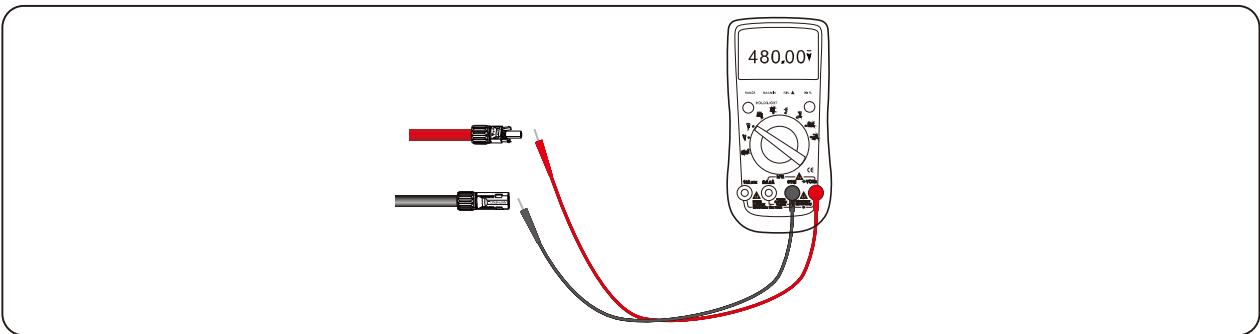

Figure 5.15 Checking the voltage of every route Strings
**Step 5** Measure the voltage of every route Strings by using a multimeter. Ensure that the polarities of the DC input power cables are correct, as shown in Figure 5.15.